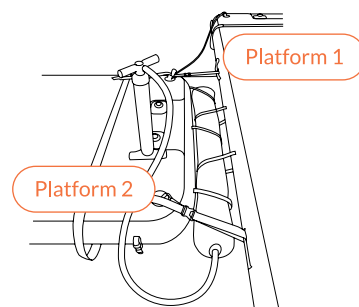

Fig 57 - Using Stirrup pump to inflate Air Toggle in place
7. Inflate the Air Toggle (Fig 57) until rigid. Once 5.5Psi/ 379MB has been achieved, the pressure release valve on the Air Toggle will begin to expel air.